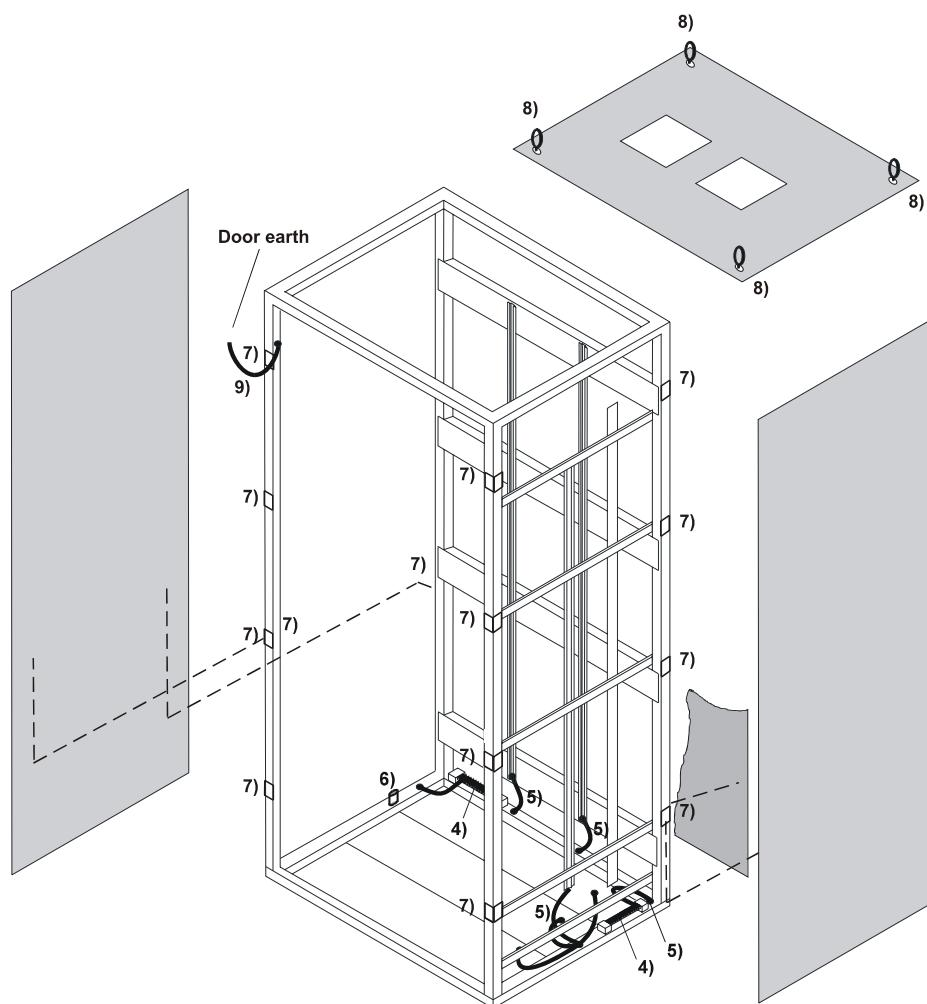

Figure 6: Earthing cable run
The top plate is screwed to the cabinet framework via four lifting eyes. Side panels and rear panel are conductively connected via earthing clamps (7) (see Figure 6) to the cabinet framework as well as the bottom plate via screws.
**Earthing clamps** (Position 7 in Figure 6)
**Customers earthing** (Position 6 in Figure 6)
**Lifting eyes** (Position 8 in Figure 6)